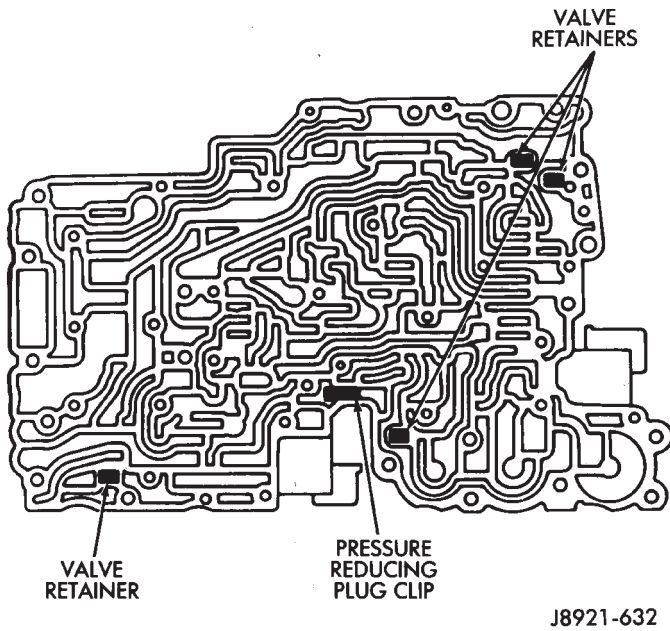

Fig. 2 Valve Retainer And Clip Location
- (2) Remove oil strainers (Fig. 2).
- (3) Note or mark position of valve retainers and pressure reducing plug clip for assembly reference (Fig. 2). Do not remove the retainers at this time.